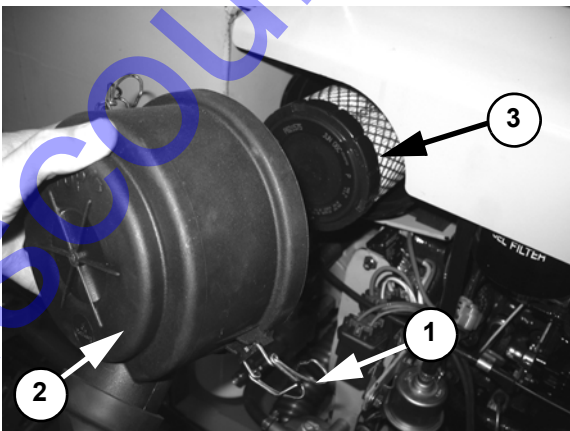

Fig. 36 - Air Cleaner
1. Open the latches (1, Fig. 36) securing the air cleaner cover (2).
2. Remove the cover and the air cleaner element (3).
4. Clean the inside of the air cleaner cover (2).
5. Re-install the air cleaner element (3) into the air cleaner housing.
6. Re-install the air cleaner cover (2) on the housing and secure with latches (1).